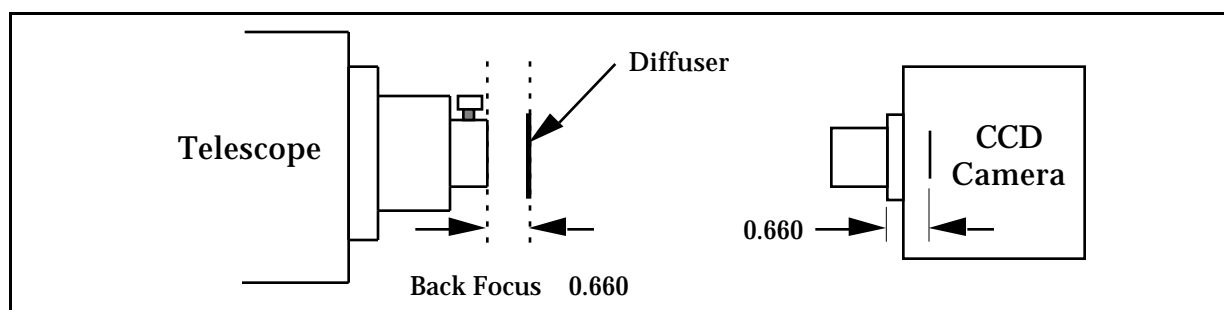

Figure 2.2 - Camera Back Focus
Q. *What is the back focus of the camera?* A. Please refer to Figure 2.2.